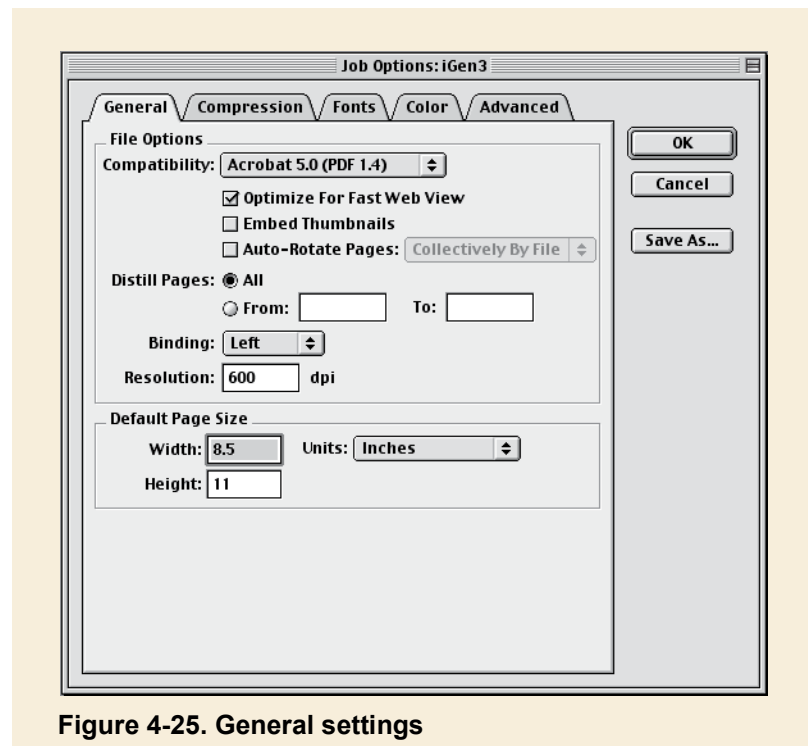

Figure 4-25. General settings
- **General settings** - Optimize For Fast Web View (Figure 4-25) may cause files to take longer to Distill. Consult your print provider if this function is preferred ON or OFF. If their RIP handles 'Optimized' PDF files, check this function for faster productivity. Otherwise, it can slow the RIP processing time.